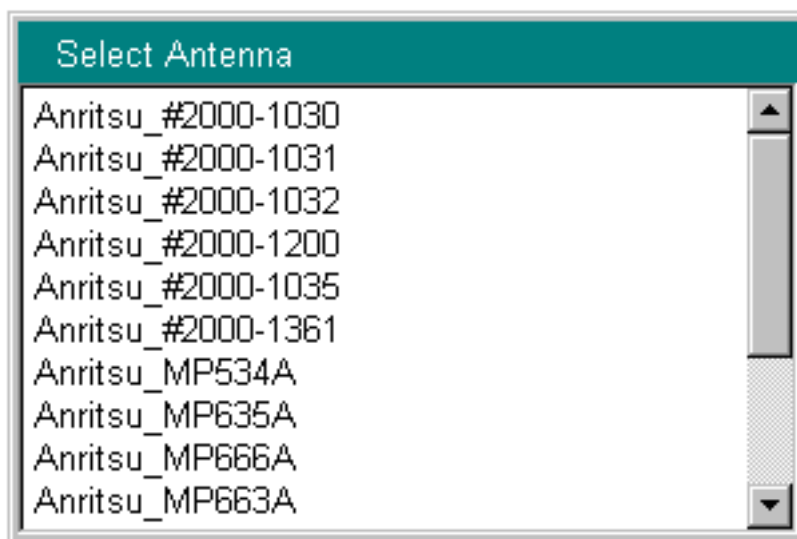

Figure 4-2. Select Antenna List Box
- d. Press the Antenna (Correction Level) submenu key to open the Select Antenna list box (refer to Figure 4-2).